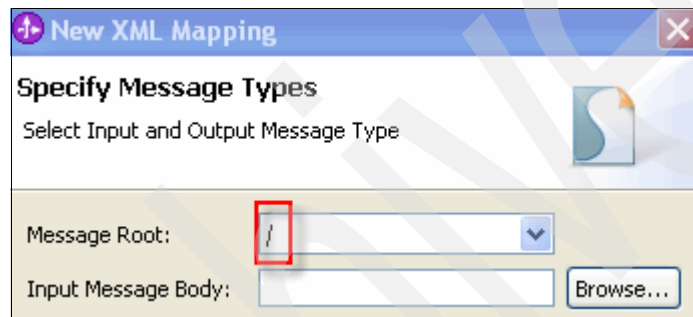

Figure 6-31 Selecting the message root for the XSLT Transformation
- b. In the second panel, change the message root to “/”, as shown in Figure 6-31.